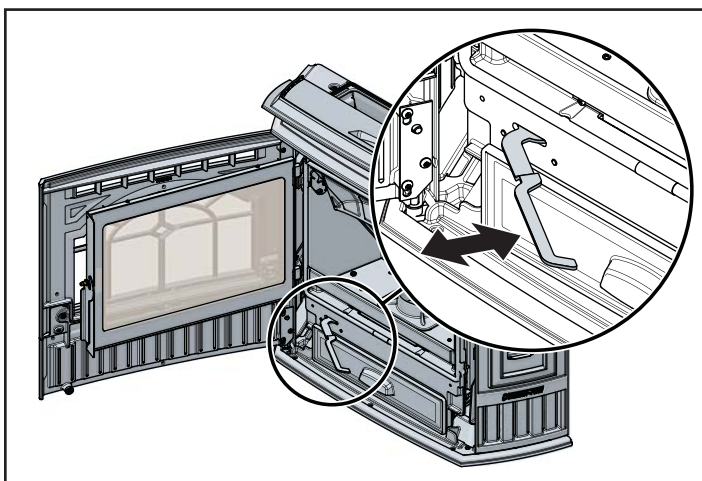

Figure 16.2
- Pull firepot floor cleaning lever two times until the ash falls into the ashpan below. **Figure 16.2**